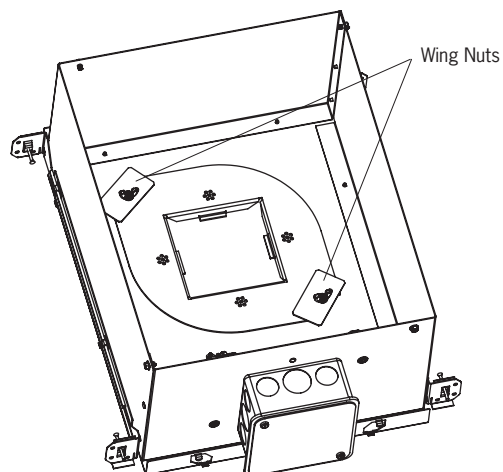

FIGURE 3
- A convenience 2-in-1 duplex connector is provided if daisy-chaining housings is desired. The duplex connector must be installed in the knockout located opposite the pre-wired low voltage harness. (Figure 3).
- Remove driver cover. (Figure 3).
- Remove driver cover. (Figure 3)